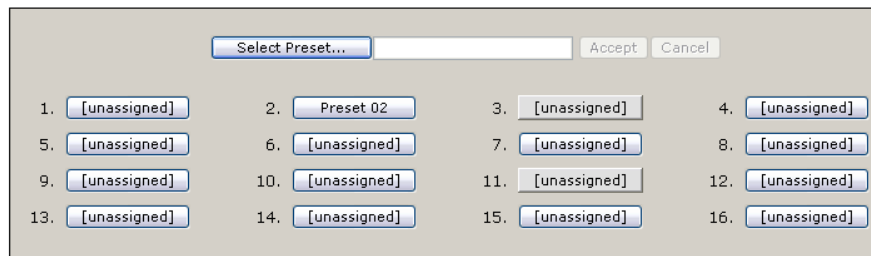

Figure 6-15 — Select an unassigned preset button
1. Click **Save Preset**. The button changes to **Select Preset...**, and all unassigned buttons become visible (see figure 6-15).